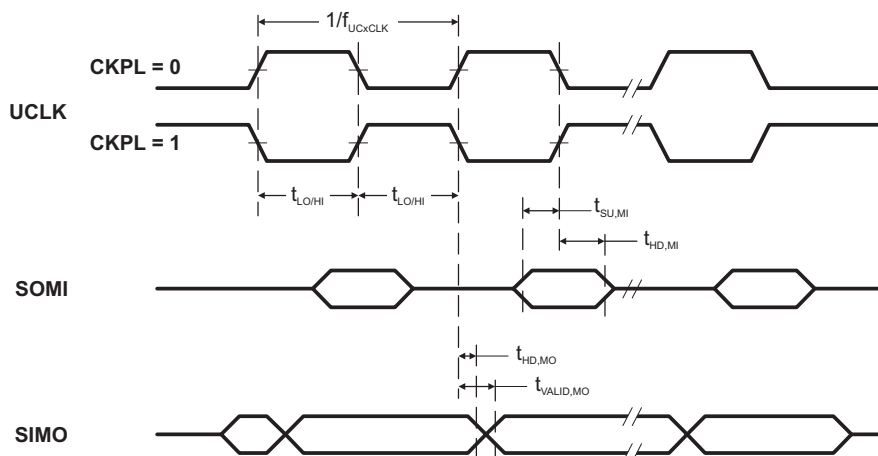
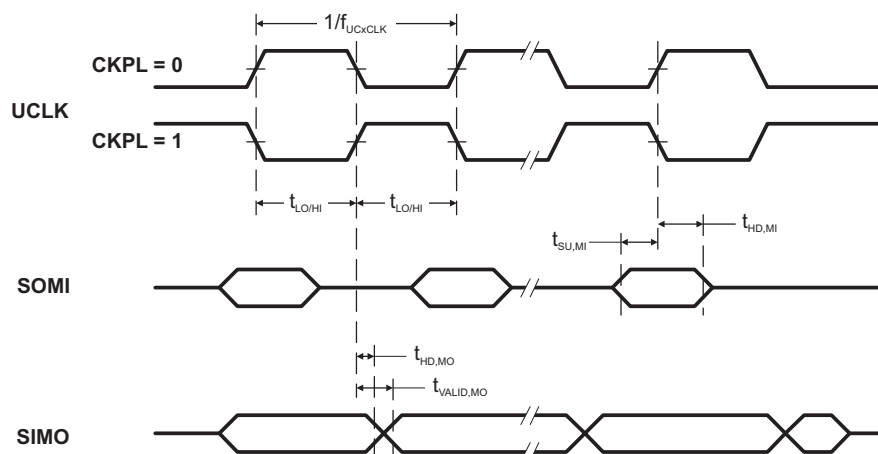

Figure 5-11. SPI Master Mode, CKPH = 0
Figure 5-12. SPI Master Mode, CKPH = 1
(see Note ⁽¹⁾, Figure 5-11 and Figure 5-12)
- (1) f_{UCXCLK} = 1/2t_{LO/Hi} with t_{LO/Hi} ≥ max(t_{VALID,MO}(USCI) + t_{SU,SI}(Slave), t_{SU,MI}(USCI) + t_{VALID,SO}(Slave)). For the slave parameters t_{SU,SI}(Slave) and t_{VALID,SO}(Slave), see the SPI parameters of the attached slave.
- (2) Specifies the time to drive the next valid data to the SIMO output after the output changing UCLK clock edge. See the timing diagrams in Figure 5-11 and Figure 5-12.
- (3) Specifies how long data on the SIMO output is valid after the output changing UCLK clock edge. Negative values indicate that the data on the SIMO output can become invalid before the output changing clock edge observed on UCLK. See the timing diagrams in Figure 5-11 and Figure 5-12.
(2) Specifies the time to drive the next valid data to the SOMI output after the output changing UCLK clock edge. See the timing diagrams in Figure 5-11 and Figure 5-12.
(3) Specifies how long data on the SOMI output is valid after the output changing UCLK clock edge. See the timing diagrams in Figure 5-11 and Figure 5-12.